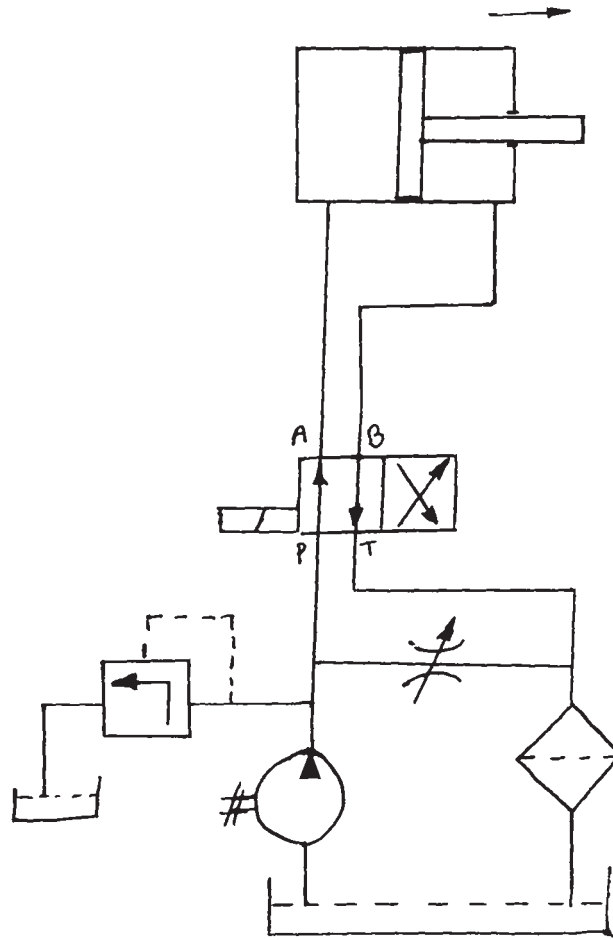

Fig. No. 1
- (ii) 1) Identify the following circuit in Figure No. 1.